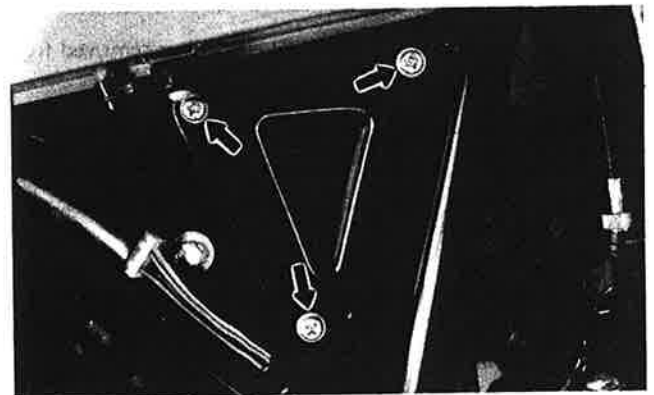

Fig. 2-3-3
1. Remove the air cleaner element assembly. (Fig. 2-3-3)